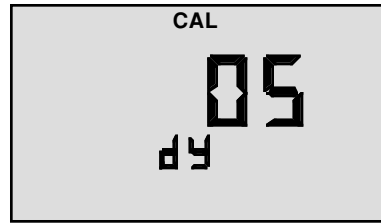

Figure 15
9. Press  to accept the change (new day). (see Figure 15).